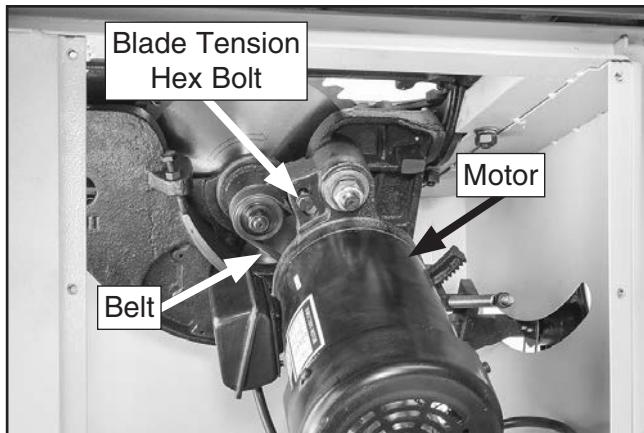

Figure 138. Components used to tension or remove belt.
4. Loosen blade tension hex bolt shown in **Figure 138**.